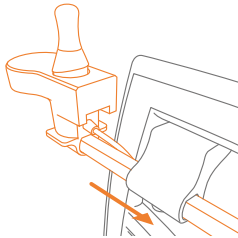

Figure 4: Slide the joystick controller into the holder.
- a. Make sure the cable of the joystick controller is disconnected before attaching it. Disconnect by loosening the metal rings. Slide the disconnected joystick controller through the hole in the holder. Make sure that the cable runs between the frame and the controller as shown in **(Figure 4)**.